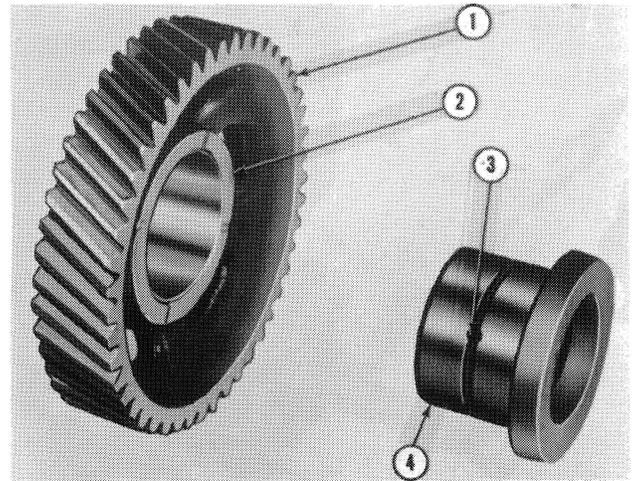

Figure 27
3. Check the adapter oil passage, Figure 27, to be sure that it is clear.
4. Inspect the camshaft drive gear bushing, Figure 27, for wear, nicks, or burrs, and install a new gear if any of these conditions exist.